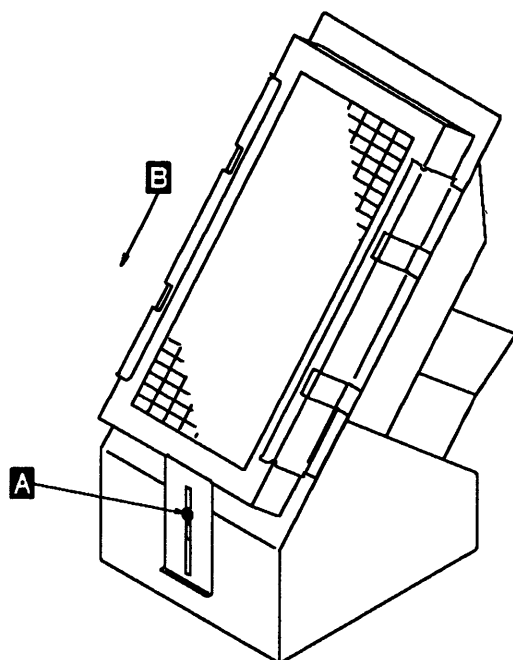

Figure 5-73. Filter Removal
3. Referring to Figure 5-73 on page 5-81: